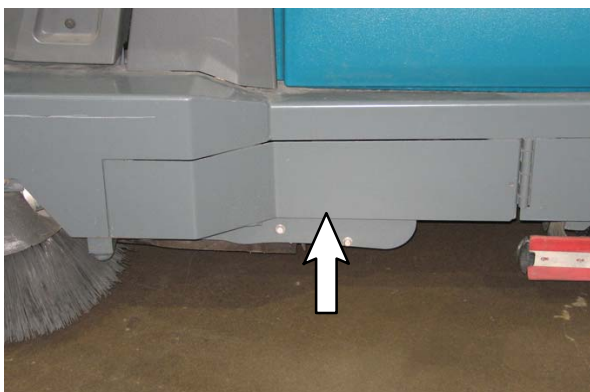

FIG. 1
1. Remove the brush cover panel from the machine. Set the sweep brush cover panel and mounting hardware aside. (Fig.1)